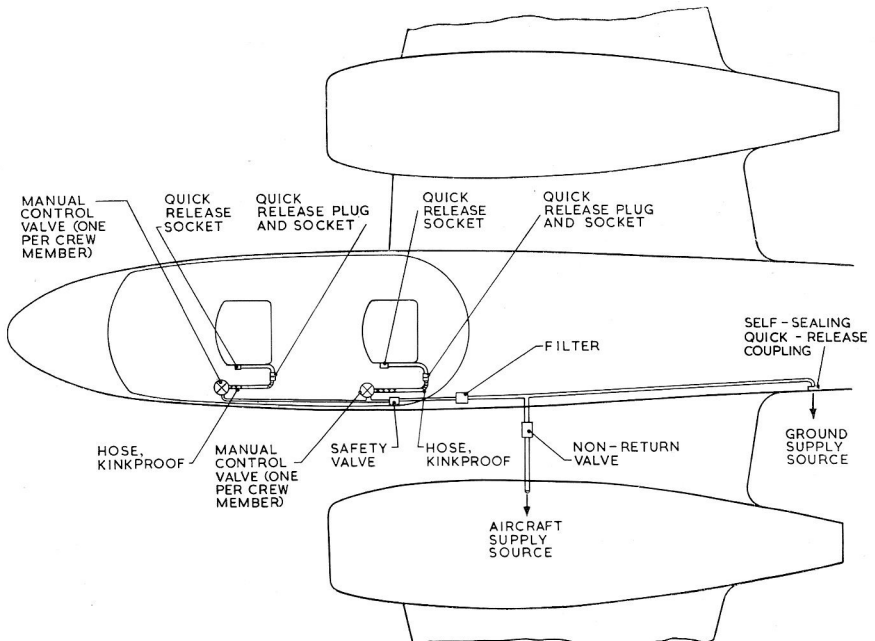

Fig. 4. Air supply installation for two-seater aircraft
**14.** Aircraft and ground air supply systems will not necessarily be standard even for a particular type of aircraft, e.g., all single-seater fighters may not have the same layout. There will, however, be standard components, and the illustrations in fig. 4 and 5 show the recommended layout of installations using standard parts. The actual supply sources and method of conditioning are not shown, since these will vary from aircraft to aircraft.